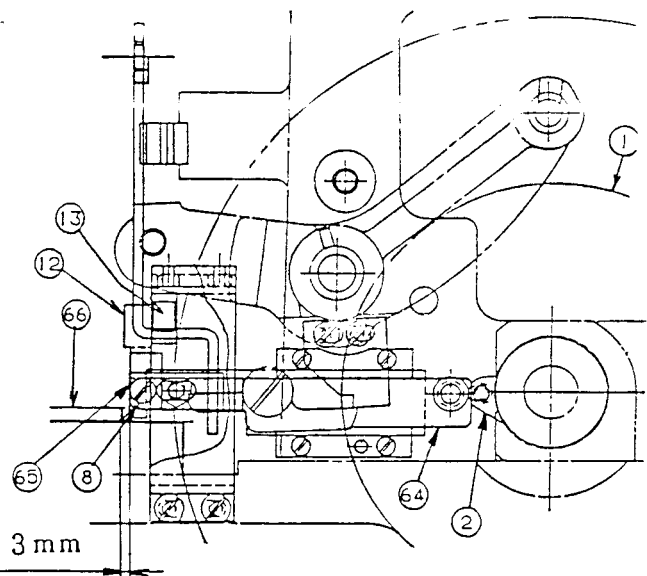

Fig.2
2. To adjust the spreader. (Figs.2 and 3)
3. To adjust the spreader sensor shut off plate.(Figs.2 and 4)
Note:Make sure the shut off plate(12) does not shut off the spreader sensor when spreader lever(64) is pushed out to its extreme outward position by spreader cam(2), Fig.2. Also make sure the shut off plate(12) does not interfere with the inner side of the sensor when passing through the sensor.